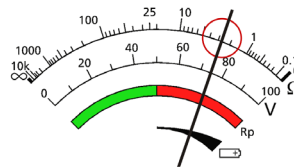

Figure 15: Resistance reading between 'X' and 'Y' terminals
6. A resistance reading will be indicated on the analogue display, as shown in Figure 15.
11. A resistance reading will be indicated on the analogue display, as shown in Figure 15.